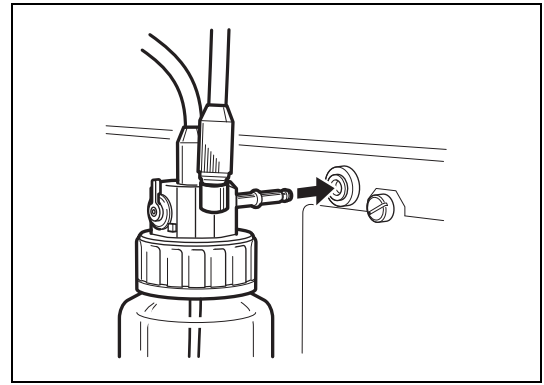

Figure 2.4
- 4** Insert the air pipe stem of the water bottle into the water bottle receptacle of the processor until it clicks into place. (Refer to Figure 2.4)